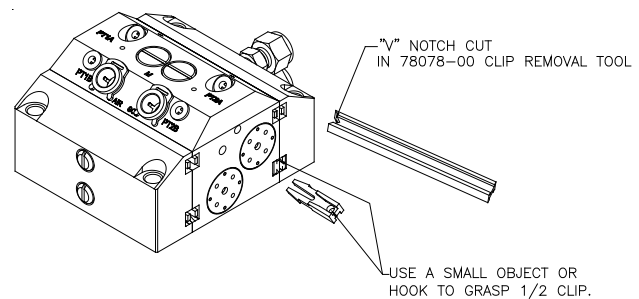

Figure 13: Removing and Reinstalling Valve Block from a Stack
2. Using the clip removal tool (78078-00), push on the installed locking clip with the "V" cut as shown in Figure 13.
4. Pull out the 1/2-inch clip as shown in Figure 13.